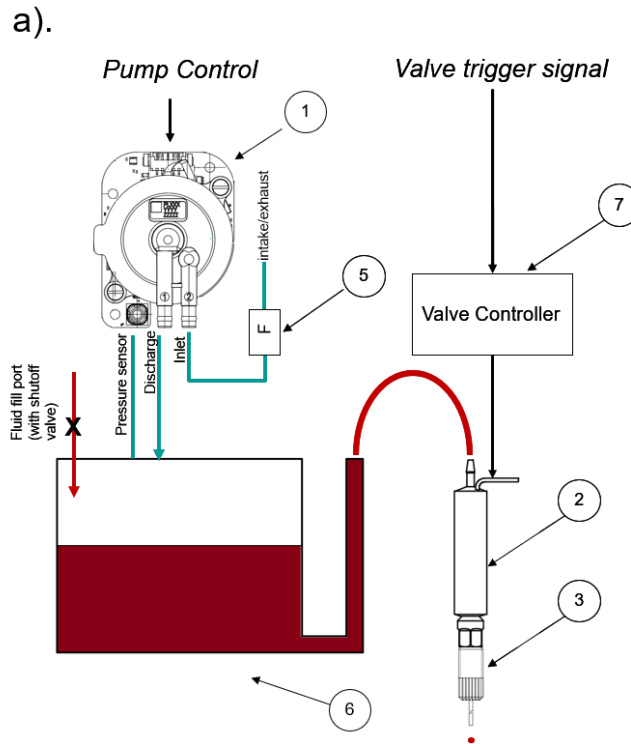

Figure 4. Prototype Schematic A
Figure 4 shows Prototype Schematic A, the simplest time-metered dosing system with details of the main components provided in Table 1. In this system the Smart Pump Module (1) controls pressure of the air space in the reservoir (6). The fluid is pushed against the VHS Valve (2). When the VHS Valve is energized (for e.g. 100 ms), a droplet of the fluid is ejected from the nozzle (3).